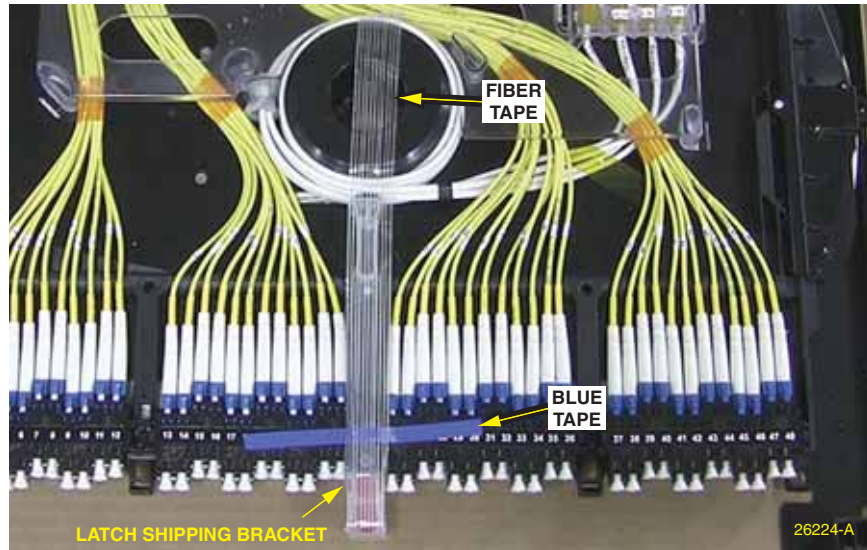

Figure 41. Removing Fiber Tape, Blue Tape, and Latch Shipping Bracket
- Remove the fiber tape, blue tape, and latch shipping bracket identified in Figure 41.